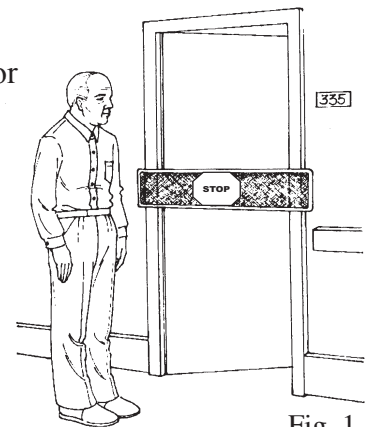
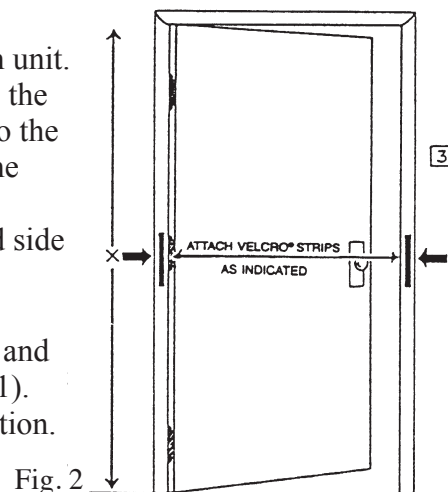

Fig. 1
Fig. 2
Peel the backing off the hook and loop pressure-sensitive strips and attach them to the left and right sides of the door frame. These strips should be positioned at mid height on the door frame (Fig. 1). **IMPORTANT:** Attach the pressure sensitive strips to the corridor side of the door frame (Fig. 2).
The magnet version only works on steel door frames. Simply affix the magnet to the door frame at mid height as shown in (Fig. 1). Note this version will not work on wooden or aluminium door frames.
1. Install 9-volt battery. Battery compartment is on side of alarm unit. The Stop Strip alarm system includes hook and loop strips. Peel the backing off one of the longer hook and loop strips and attach it to the hinged side of the door frame. Attach the other smaller strip to the door knob side of the door frame. (see Fig. 2).
3. Attach the hook and loop material on the stop strip to the strip on the hinged side of the door. Bring stop strip across the door and attach the magnet sewn into the strip on the alarm unit (see Fig. 1).